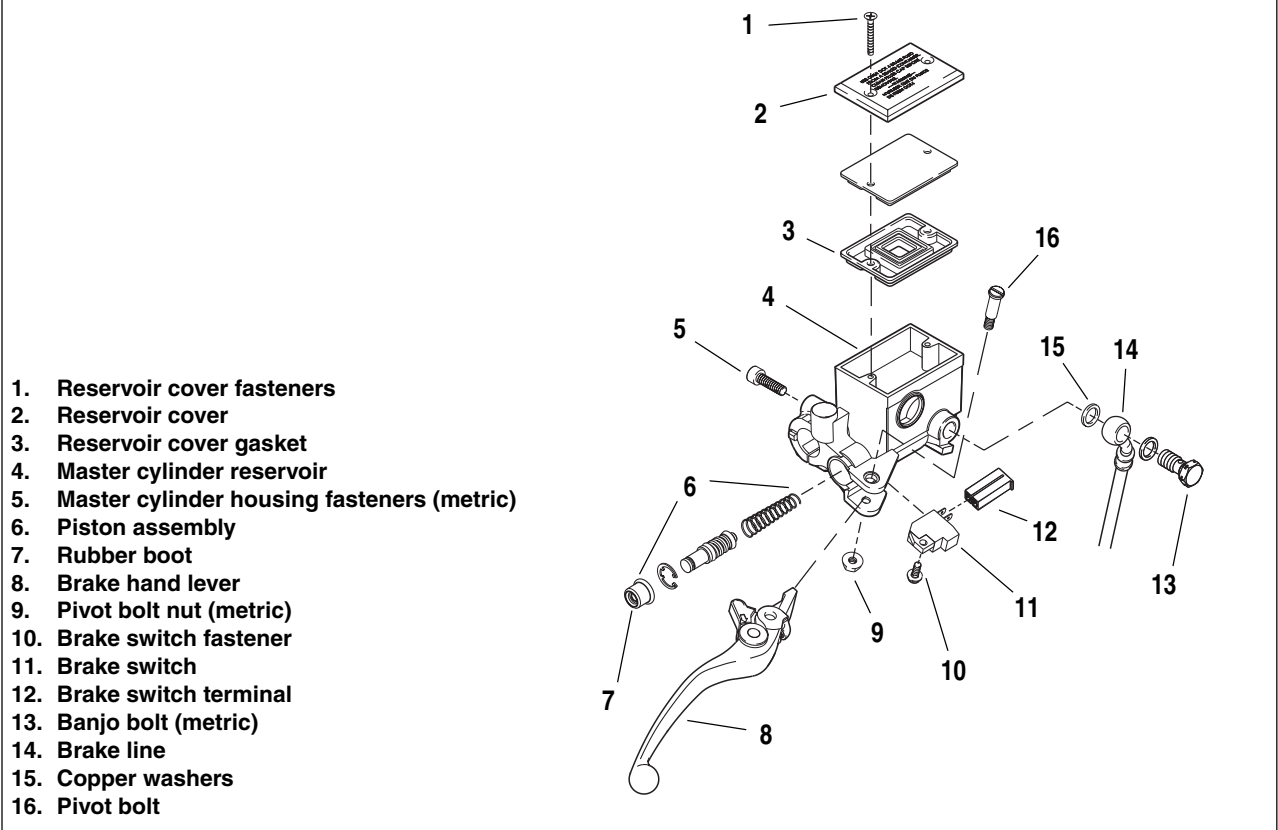

Figure 2-37. Front Brake Hand Lever Assembly
2. See Figure 2-37. Remove the banjo bolt (13) (metric) and two copper washers (15) to disconnect brake line (14) from master cylinder (4). Discard copper washers.
3. Unplug terminal (12) to detach brake lamp switch (11).
1. See Figure 2-37. Remove pivot bolt nut (9) (metric) and pivot bolt (16) from hand lever pivot.
2. Detach front brake hand lever assembly (8) from hand lever pivot.
3. Detach front brake lamp switch (11) by removing the switch fastener (10).
1. See Figure 2-37. Remove master cylinder cover (2) by removing cylinder cover fasteners (1).
3. Remove rubber boot (7) and discard.
5. See Figure 2-37. Remove piston assembly (6) from front master cylinder reservoir (4) and discard.
4. See Figure 2-37. Insert piston assembly (6), spring first, into master cylinder reservoir (4).
1. See Figure 2-37. Lubricate pivot bolt (16) with LOCTITE ANTI-SEIZE.
2. Align hole in hand lever (8) with hole in hand lever pivot and install pivot bolt (16) through top of hand lever pivot and tighten nut to 80-120 **in-lbs** (9-14 Nm).
1. See Figure 2-37. Install front brake lamp switch (11).
- a. Install brake lamp switch (11) with switch fastener (10) and tighten to 7-10 **in-lbs** (0.8-1.0 Nm).
- b. Connect brake switch terminal (12) to brake lamp switch (11).
3. See Figure 2-37. Connect brake line to master cylinder using two **new** copper washers (15) and banjo bolt (13) (metric) and tighten to 16-20 ft-lbs (22-27 Nm).
5. See Figure 2-37. Remove two master cylinder cover screws (1), cover (2) and cover gasket (3).
10. See Figure 2-37. Attach master cylinder cover (2) and cover gasket (3). Tighten two cover fasteners (1) to 9-13 **in-lbs** (1.0-1.5 Nm).
4. See Figure 2-37. Remove master cylinder banjo bolt (13) (metric) and two copper washers (15) to disconnect brake line from master cylinder (4). Discard copper washers.
1. See Figure 2-37. Connect brake line (14) to master cylinder (4) using two **new** copper washers (15) and a banjo bolt (13) (metric). Loosely install bolt into master cylinder.